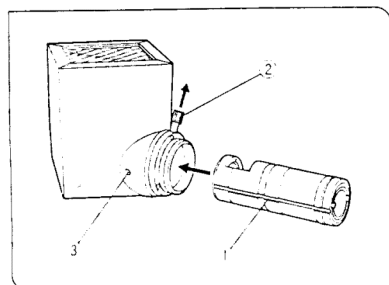

Fig. 7
1. Align the collector lens positioning groove ① with the pin inside the lamp housing, then the collector lens focusing knob ② to slide the collector lens into the lamp housing as far as it will go. Then tighten the collector lens retaining screw ③. (Fig. 7)